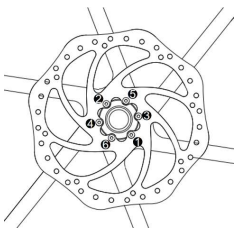

Figure 2-1 Disc and Disc Fixing Screw Locking Sequence
- ① Install the disc on the hub, note that the logo on the disc must face outwards (the direction of rotation of the wheel is the same as the direction of the disc arrow), and then use the disc fixing screws to lock the disc to a half-tight condition. To ensure the flatness of the disc, the disc screws should be tightened alternately in opposite positions.
- ② Wearing protective gloves, apply a certain amount of force to the disc in a clockwise direction while tightening the disc screws in a diagonal order (as shown in Figures 2-1 and 2-2).
- ③ Disc fixing screw locking torque 60kgf-cm (55 lbf-in)